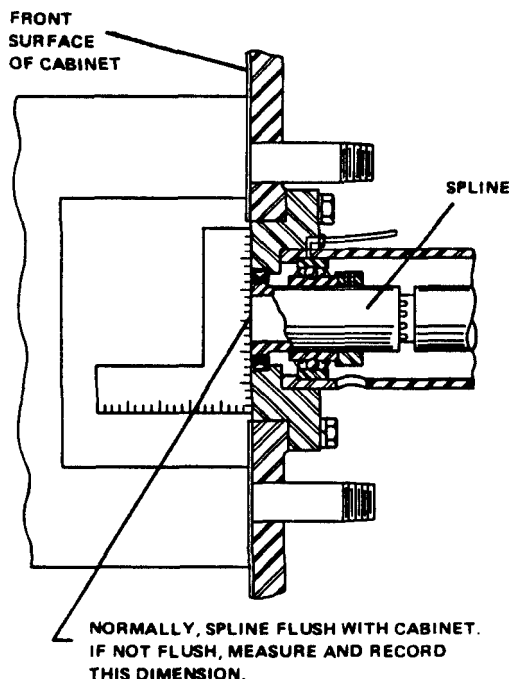

Figure 5-15. Checking Drive Shaft Spline Position
2. Check the position of the drive shaft spline relative to the front of the cabinet as shown in figure 5-15. On most machines, the front surface of the spine will be flush with the cabinet front surface. If it is not, record the distance between the front surface of the spline and the front surface of the cabinet. The drive shaft must be replaced in the exact position before removal.